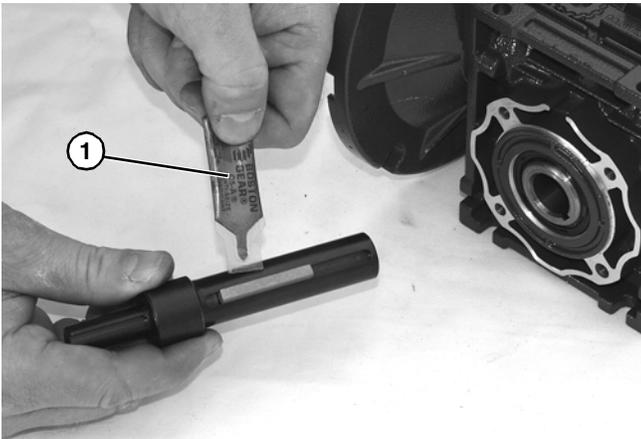

Figure 25
- Apply anti-seize (**Figure 25, item 1**) to shaft.